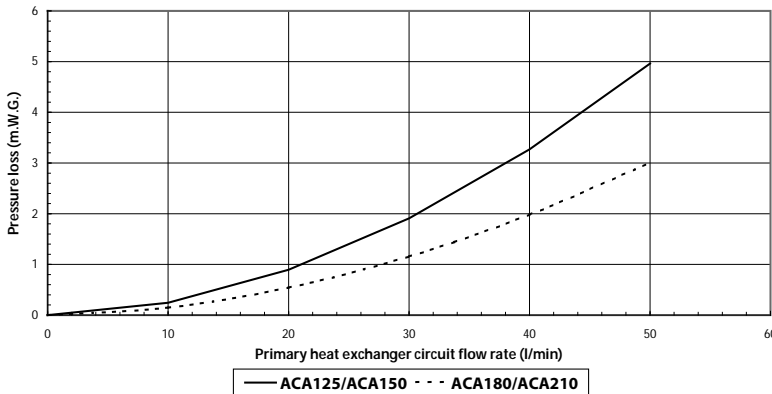
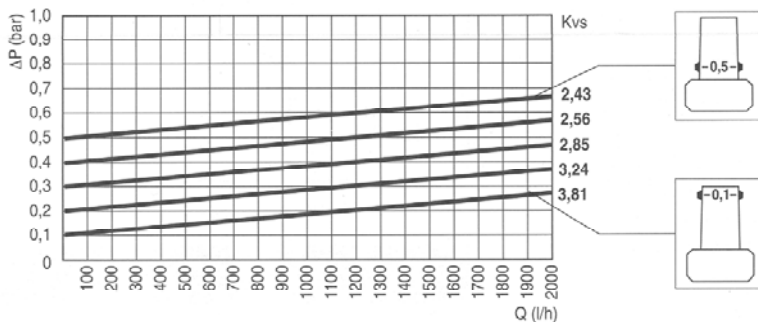

Figure 1.4 Net pump head available - Hot water only on
Figure 1.6 Automatic bypass valve characteristics
- All models are fitted with high performance primary heat exchangers and are supplied with either Grundfos UPS 15-50 or UPS 15-60 factory fitted pumps. The net pump head available when hot water only is on and when space heating only is on is shown in figures 1.4 and 1.5 respectively. The control characteristic of the automatic bypass is shown in figure 1.6.